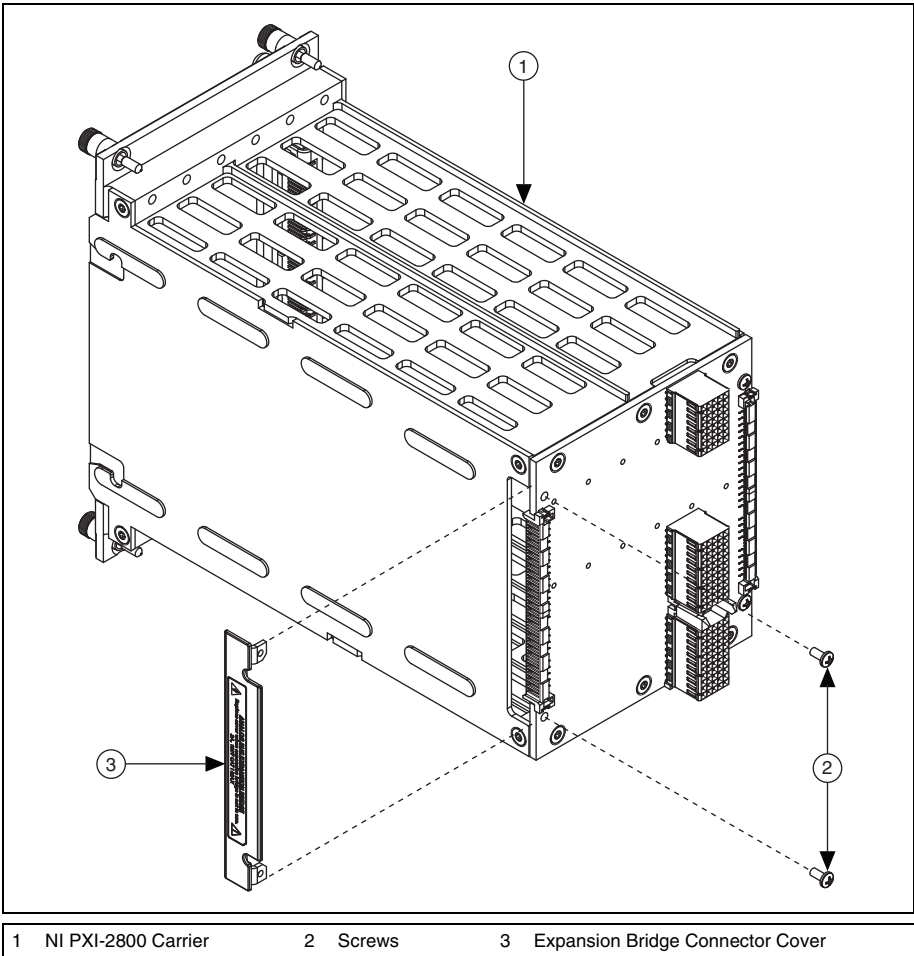

Figure 1. Removing the Expansion Bridge Connector Cover from the NI PXI-2800
3. Refer to Figure 1 and unscrew the two screws on the expansion bridge connector covers determined in step 2 using the #1 Phillips screwdriver.